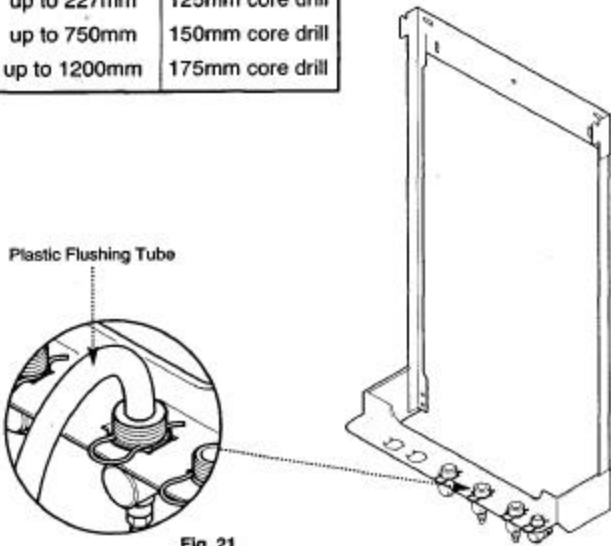

Fig. 21
1. Insert a tube into the valve outlet furthest from the filling loop (Fig. 21).